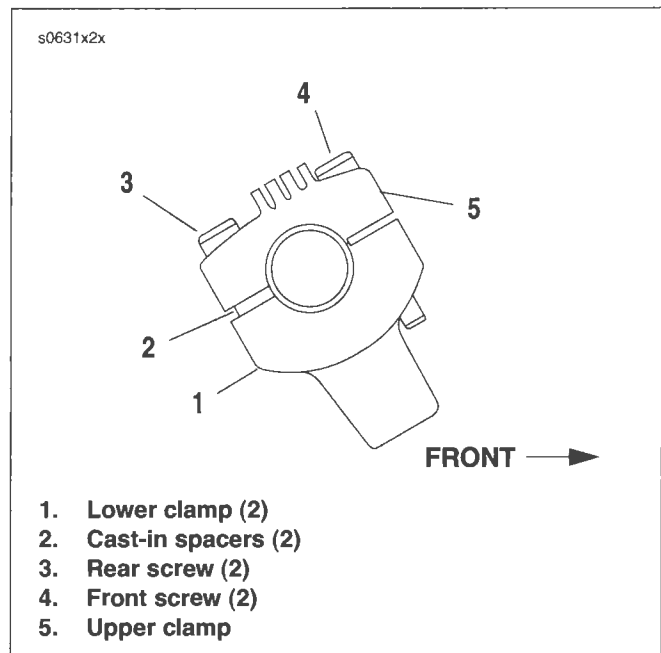

Figure 2-116. Handlebar Riser
4. See Figure 2-116. Place handlebars on lower handlebar clamps. Install upper handlebar clamps. Install but do not tighten clamp fasteners.